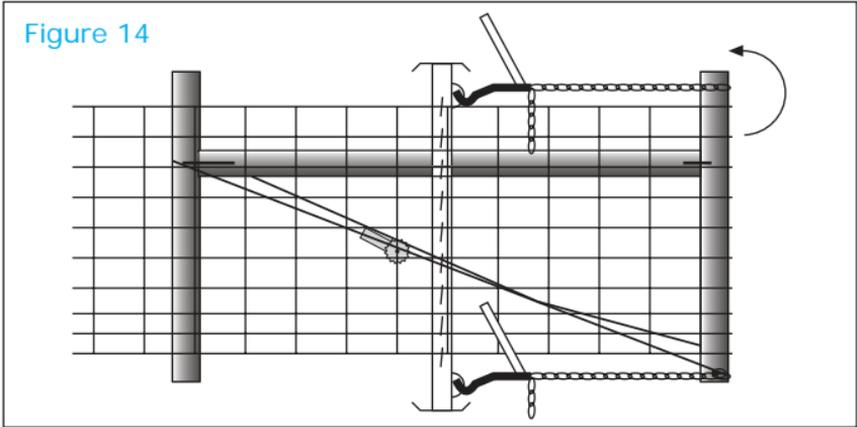

Figure 14
7. Attach your stretcher bar to the fence near the middle of the brace. Make sure you can reach the end post with your tensioning device. When the stretcher bar is securely attached to the fence, hook two tensioning devices into its loops. Attach the tensioning device to end post and slowly tension the fence. (Figure 14) It is a good idea to stop and recheck the fence line for obstructions after you have started tensioning the fence. Finish tensioning the fence.